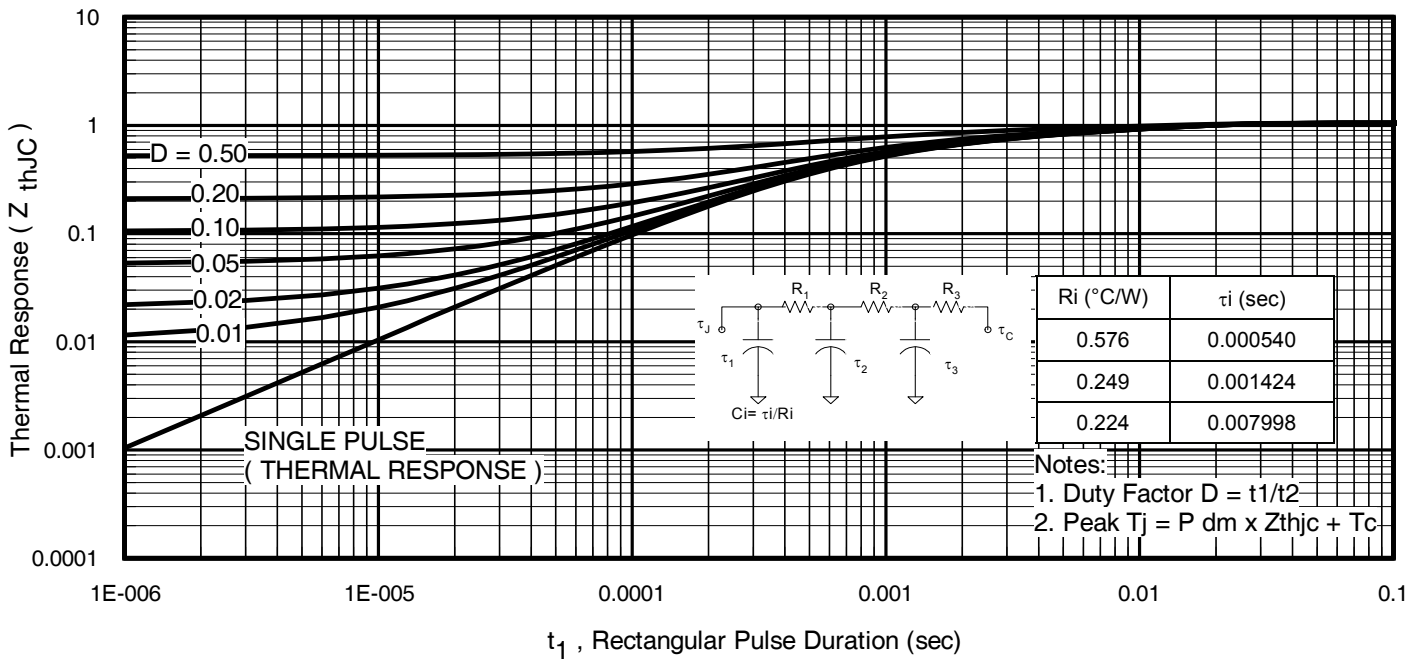
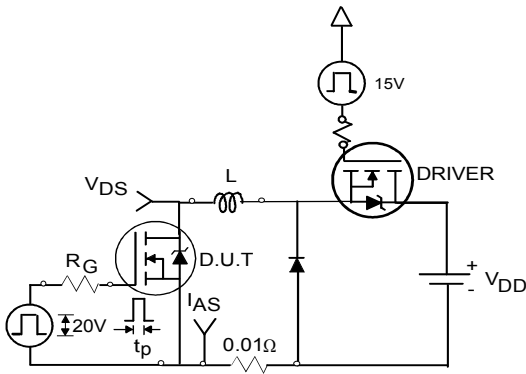

Fig 11. Maximum Effective Transient Thermal Impedance, Junction-to-Case
Fig 12a. Unclamped Inductive Test Circuit
- ① Repetitive rating; pulse width limited by max. junction temperature. (See fig. 11).
- ② starting T_J = 25°C, L = 0.28mH, R_G = 25Ω, I_{AS} = 33A, V_{GS} = 10V. Part not recommended for use above this value.
- ③ Pulse width ≤ 1.0ms; duty cycle ≤ 2%.
- ④ C_{oss eff.} is a fixed capacitance that gives the same charging time as C_{oss} while V_{DS} is rising from 0 to 80% V_{DSS}
- ⑤ Limited by T_{Jmax}, see Fig.12a, 12b, 15, 16 for typical repetitive avalanche performance.
- ⑥ This value determined from sample failure population. 100% tested to this value in production.
- ⑦ When mounted on 1" square PCB (FR-4 or G-10 Material). For recommended footprint and soldering techniques refer to application note #AN-994.
- ⑧ Refer to D-Pak package for Part Marking, Tape and Reel information
3. Equation below based on circuit and waveforms shown in Figures 12a, 12b.
$Z_{thJC}(D, t_{av})$ = Transient thermal resistance, see figure 11)